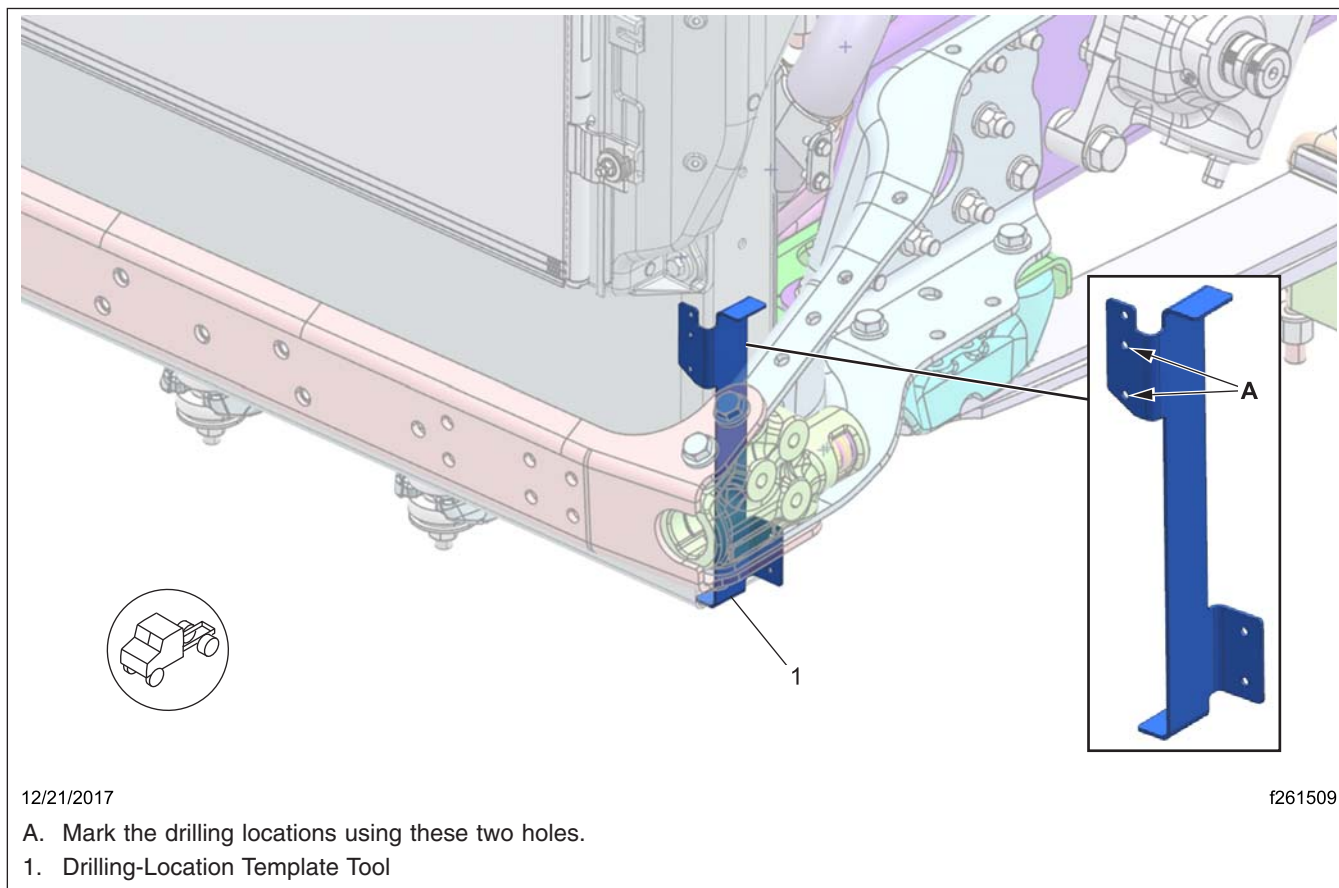

Fig. 2, Drilling Locations on the Left Front of the Radiator Frame
- 9.1 Position the template tool on the bottom left corner of the radiator frame as shown in Fig. 2. Mark the two drilling locations on the left front of the radiator frame.